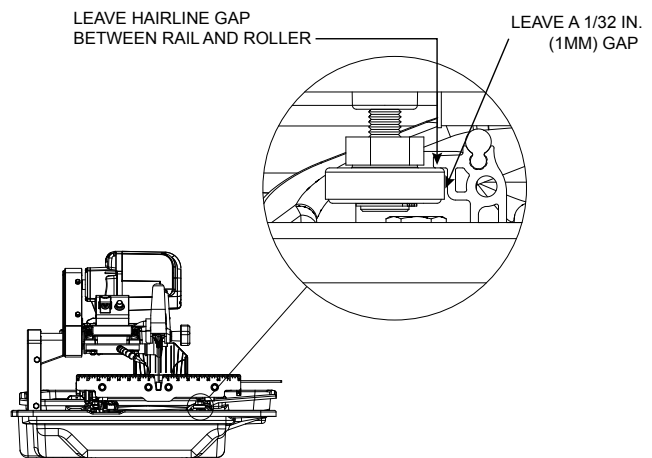

Figure 22. Adjust Right Guide Rail
7. Adjust the right guide rail so that the horizontal rollers underneath the table engage the rail as shown in Figure 22. In most cases the rollers will not have to be vertically adjusted. Spacing between rails must be equidistant at all points to ensure that they are parallel. Once adjustments are made, lightly tighten the fasteners on the right rail and move the table back and forth. If the table binds against the rail at any point, adjust spacing accordingly until the table moves smoothly.
4. After adding shim(s), mount the table onto the guide rails by reversing the instructions in step 2. Move the rails toward each other to engage the horizontal rollers to the right guide rail as shown in Figure 22. Realign the table to the blade using Method 1. Check to see if any shifting persists. A shift tolerance of 0.2mm (.008 in.) is allowed. A shift in excess of that will require further adjustment—repeat step 3.
4. Restore the horizontal rollers to their original positions as shown in Figure 22 by reversing the instructions in step 1. Be sure to tighten the lock nuts and replace the rubber caps.